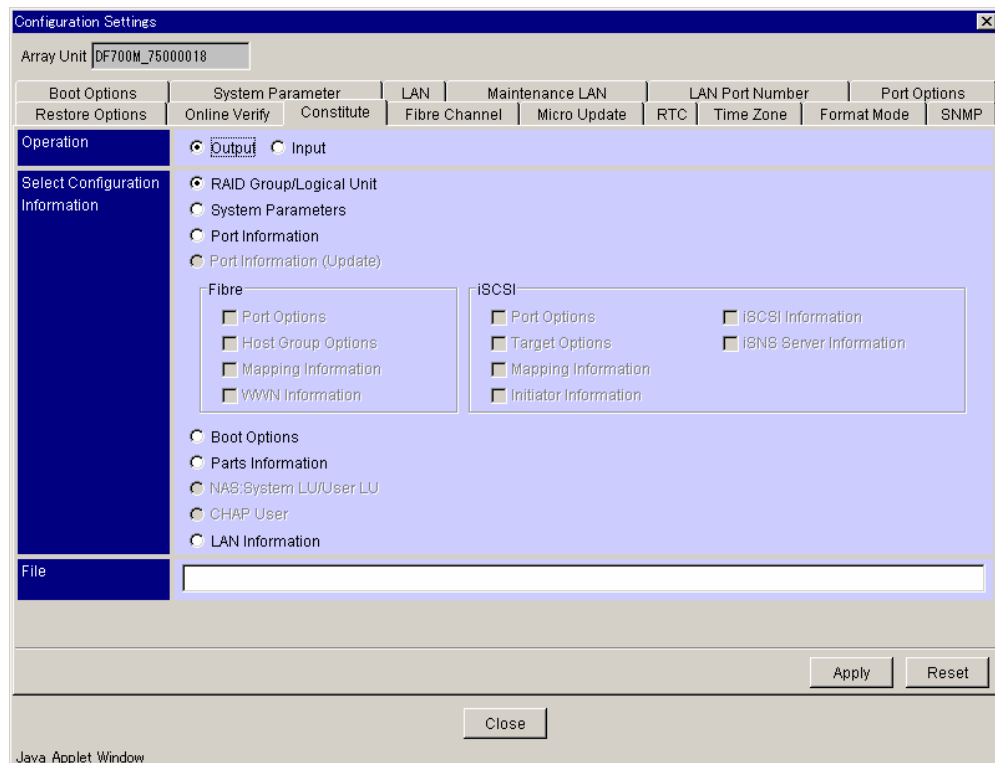

Figure 9.22 Configuration Settings - Constitute panel (output)
2. Click the **Constitute** tab. See Figure 9.22.